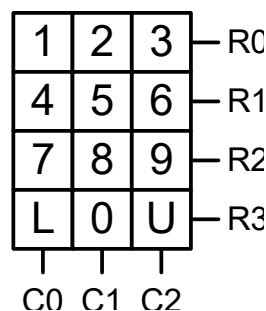

Figure 1. Control Panel
1. The control for the digital lock is a 12-button panel with 7 outputs R0..R3 and C0..C2. Figure 1 shows the layout of the control panel. When a button is pressed the column line C0, C1, or C2 will output a 1, and the row line R0, R1, R2, or R3 will output a 1. In order to simplify subsequent subcircuits you will be converting the outputs of the control panel into an output button code and a valid bit. If only a single button is pressed the valid bit V will be 1, and the button code bits B3..B0 will be the value of the button 0 = 0000, 1 = 0001, ..., L=1010, and U=1011. If multiple buttons are pressed or no button is pressed V will be 0.